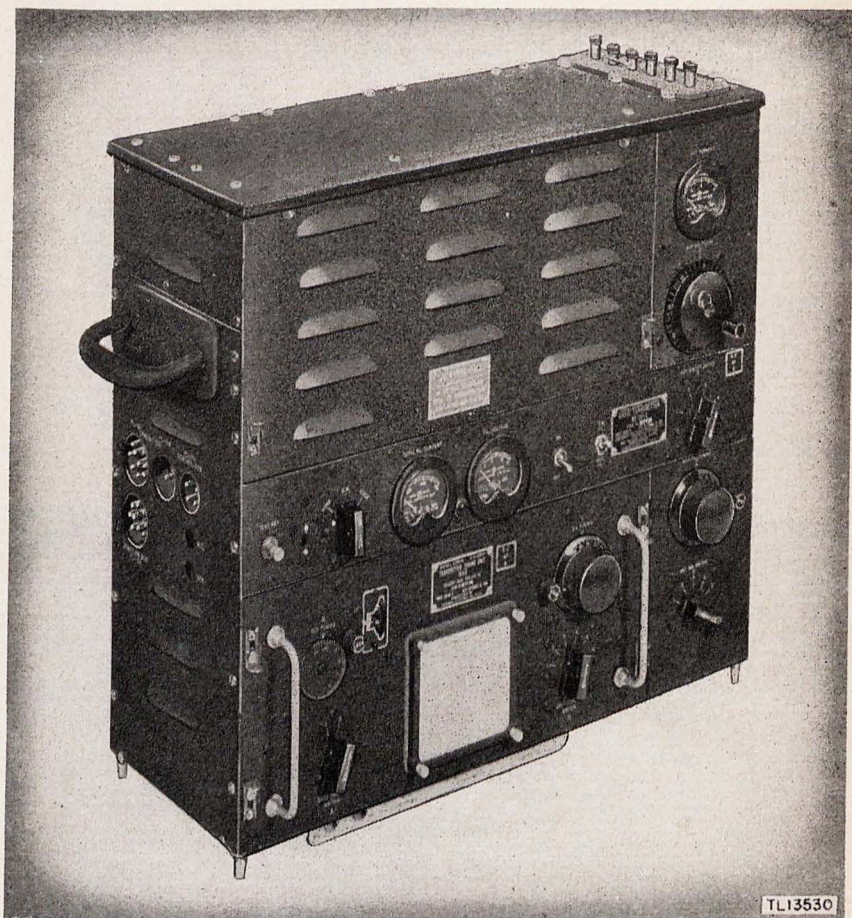

Figure 7. Radio Transmitter BC-191-().
b. RADIO TRANSMITTER BC-191-() (fig. 7). For a complete description of Radio Transmitter BC-191-(), refer to TM 11-800.